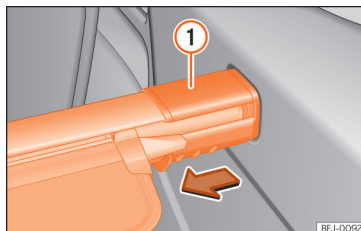

Fig. 194 In the boot: removing the rear shelf.
- Press the support of the cover >>> Fig. 194 ① in the direction of the arrow and hold it in this position.
- Remove the cover support >>> Fig. 194 ①.